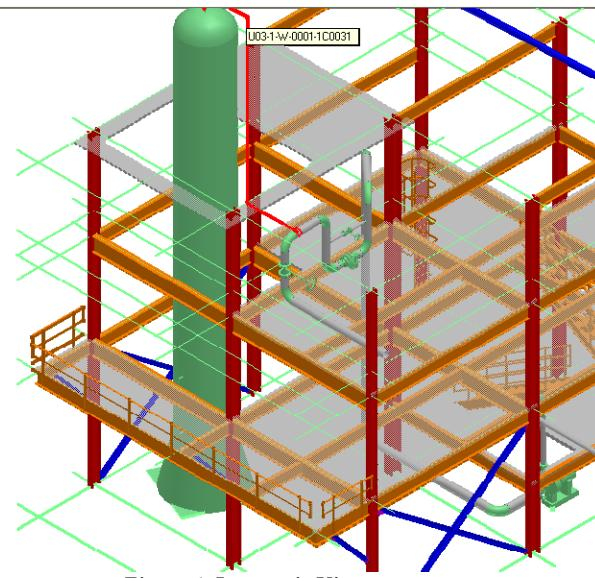

Figure 4: Isometric View
3. Change the view to isometric view and magnify the area highlighted in Figure 4 by clicking the **Zoom Area** button on the **Common** toolbar. Choose an area that just includes the vertical tank and the pump.